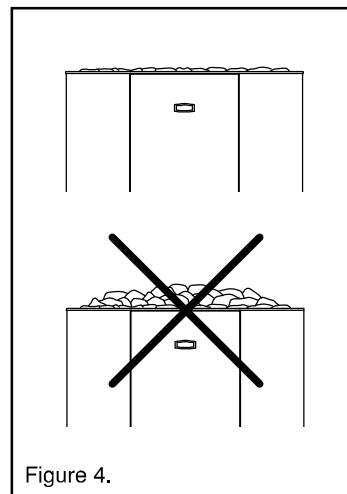

Figure 4.
- Do not pile the stones above the top of the heater. See figure 4.